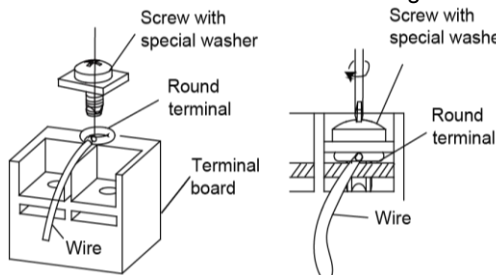

Fig. 4.37
- 4). Position the round terminal wire, and replace and tighten the terminal screw with a screwdriver (Fig. 4.37).